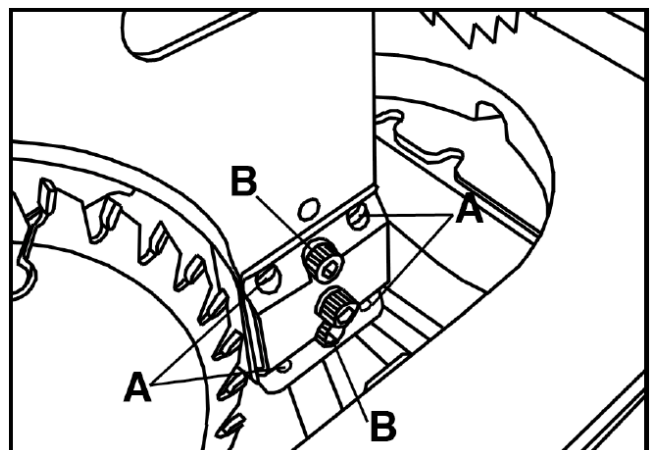

Fig.28
The blade guard splitter and/or riving knife must be aligned with the blade. If not properly aligned, the splitter/riving knife will force the workpiece sideways during the cut, increasing risk of kickback. Place a straightedge against the blade and the splitter or riving knife and check for parallelism. If an adjustment is needed, the mounting position can be adjusted into alignment with the blade using the adjustment set screws (A) (**see Fig.28**)
3. Loosen the upper and lower cap screws (B), then adjust the 4 set screws in or out until the alignment is perfectly parallel.